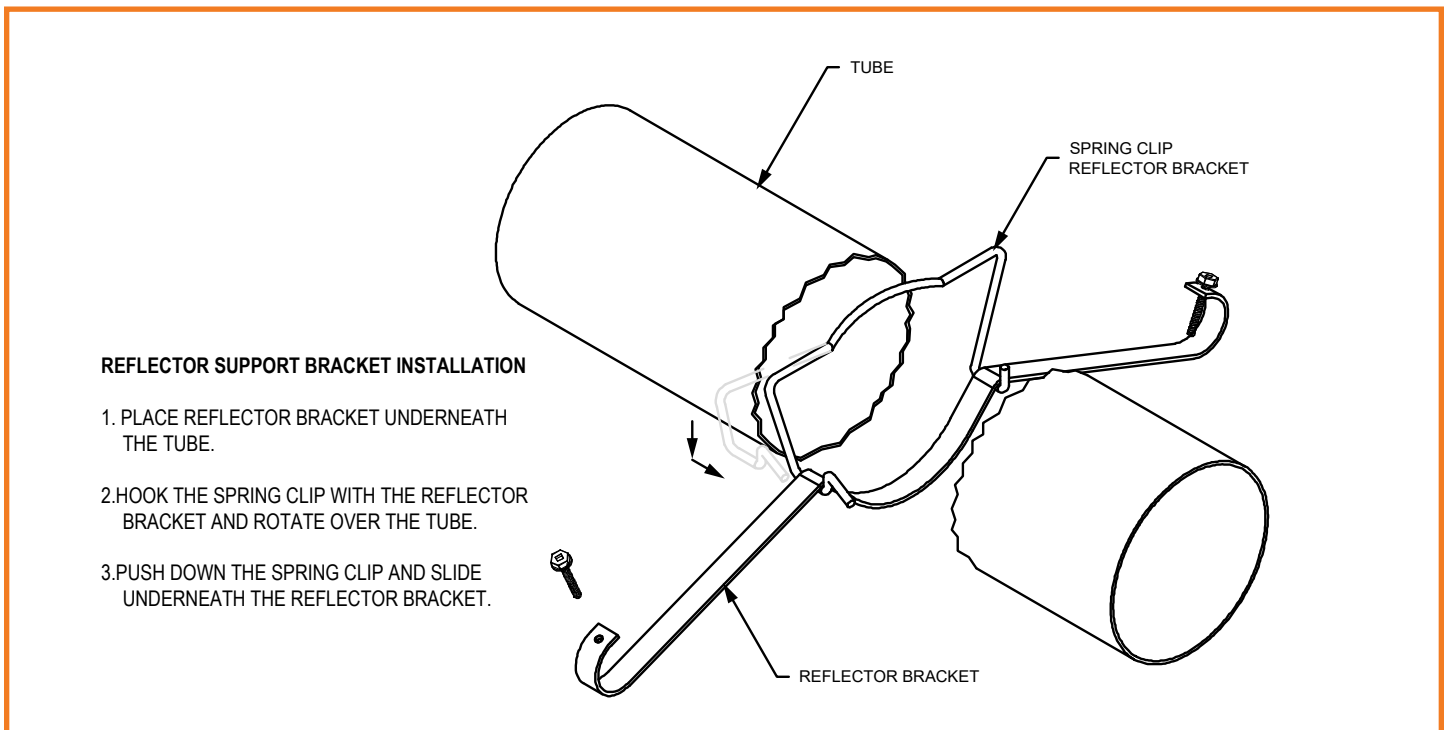

Figure 15: Reflector Support Bracket Installation
- Install reflector support brackets, one at each reflector overlap position, and one in the middle of each 10' reflector length. Figure 15 shows the installation of the reflector support bracket